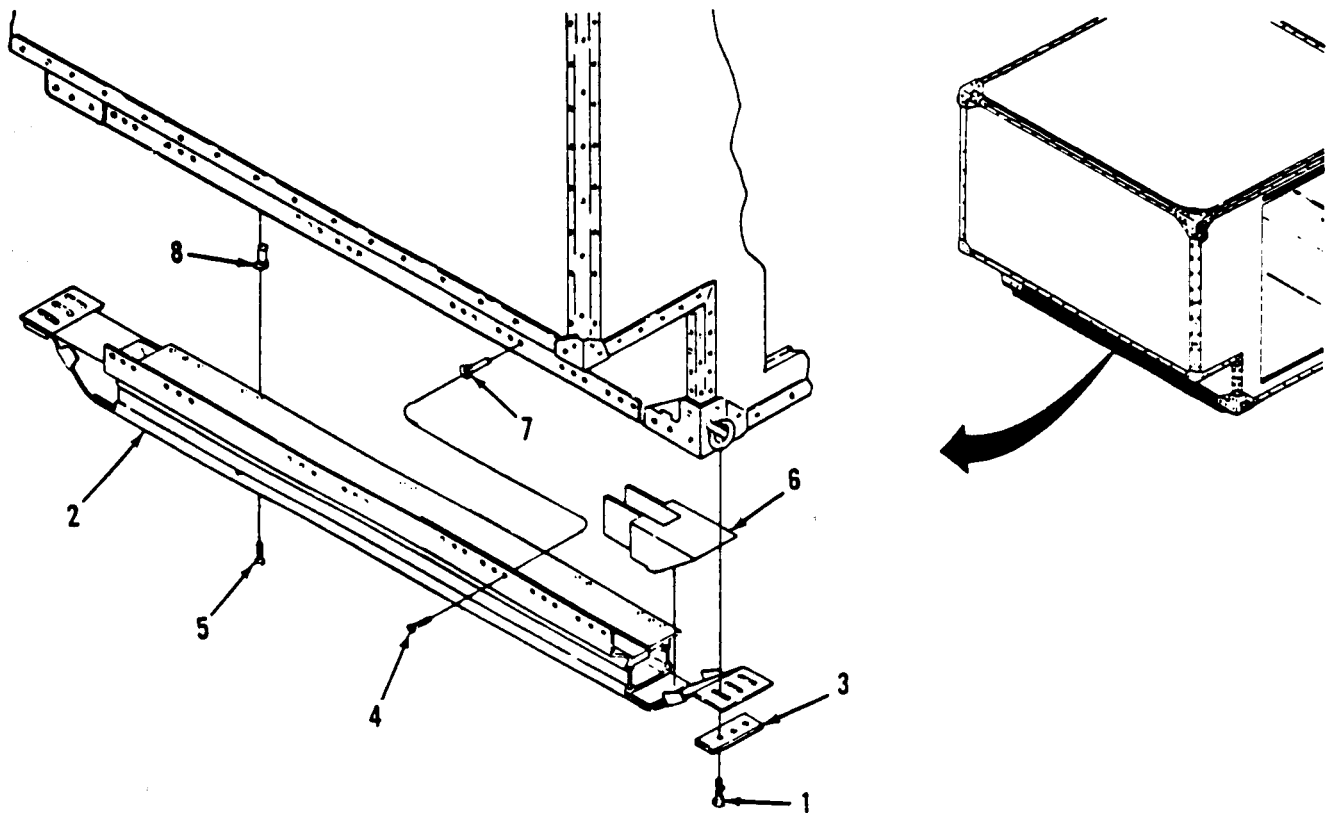

Figure 3-35. Skid Assembly Replacement.
b. Remove. (Figure 3-35)
- (1) Remove and retain three hex-head bolts (1) attaching each end of skid assembly (2) to underside of towing brackets, and remove plates (3).
- (2) Remove and retain 24 phillips head screws (4) attaching skid (2) to side panel of shelter.
- (3) Remove and retain 1x2 phillips head screws (5) attaching skid to underside of shelter floor panel, and remove skid (2) and two rubber blocks (6).
- (4) Inspect condition of rivnuts (7 and 8) and replace if necessary (paragraph 3-9.b).
- (2) Position each noseplate (10 and 11) in place over each plate (12) and secure to plate (12) and shoe (13) with 16 rivets (9).
- (3) Place spring (6) under skid plate (7) and secure with four rivets (4) and two rivets (5).
- (4) Push each skirt (1) in mounting grooves noseplate assembly (3). Align grooves of upper plate assembly (2) with top flange of skirts (1) and push in place.
- d. Install. (Figure 3-35)